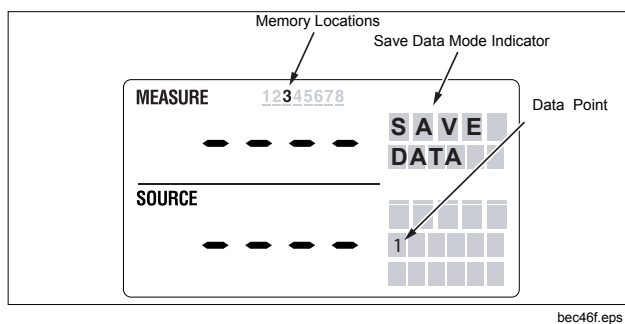

Figure 19. SAVE DATA Menu Showing Measurement Memory Location 3, 1
To store measurement data, use the following procedure, refer to Figure 19.
6. Push  to store the measurement and return the unit to the measurement mode. Figure 19 shows a reading stored in memory location 3, data point 1.